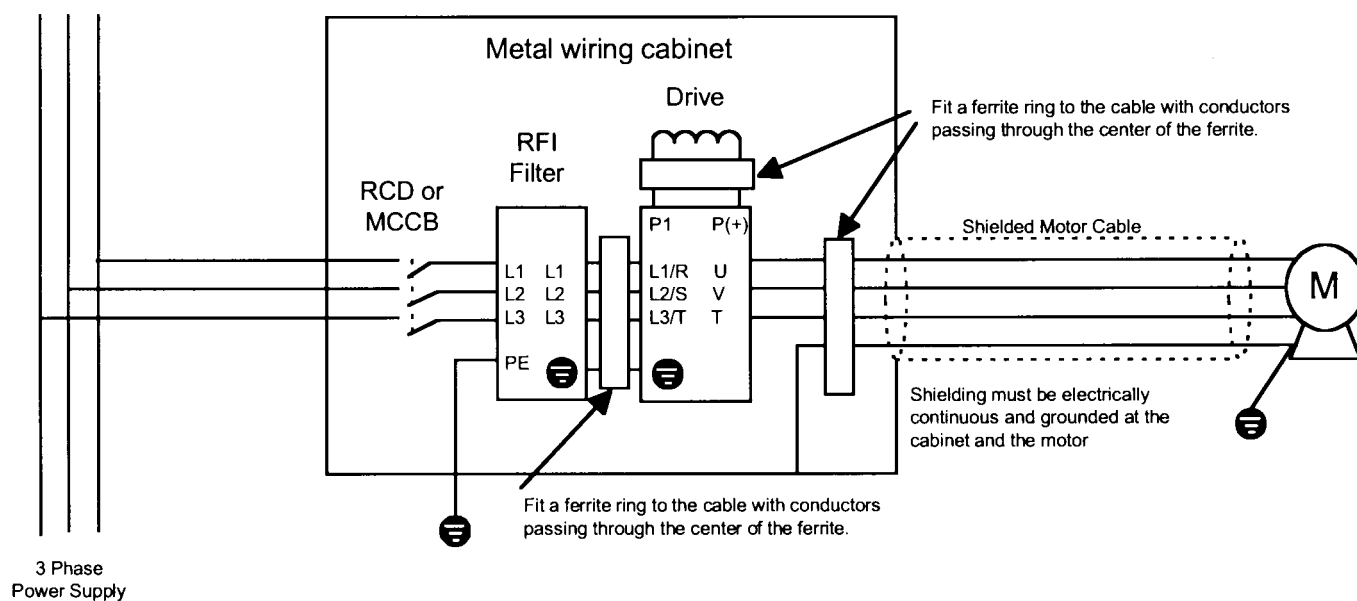

Figure 7 AF-300 G11 460V 400 Hp and higher
- 6) In the case where a ferrite ring is provided with the filter, fit the ferrite ring so the conductors pass through the center of the ferrite. Wire the cable according to Fig.6 or Fig.7, paying attention to the applied Drive type.